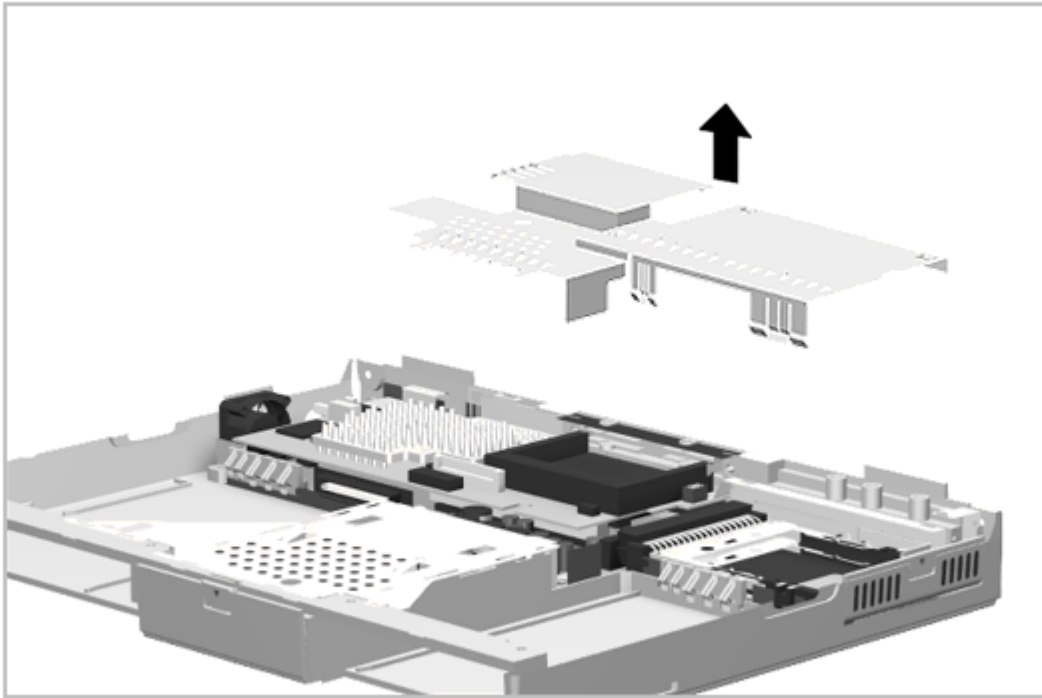

Figure 5-49. Removing the EMI Shield
7. Remove the EMI shield (Figure 5-49).